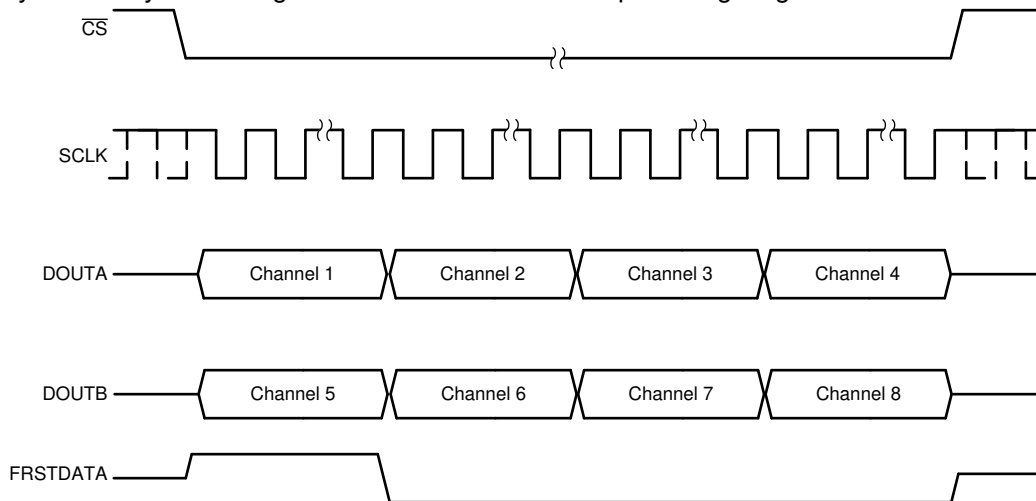

图 7-19. Data Read Back in the Serial Interface Using Both DOUTA and DOUTB Timing Diagram
- In order to minimize the time for the data read operation in serial mode, both DOUTA and DOUTB can be used to read data out of the device. In this case, the conversion results from the first set of channels (channels 1-4) appear on DOUTA and the conversion results from the second set of channels (channels 5-8) appear first on DOUTB. To read the data for all channels, provide a total of $16 \times 4 = 64$ SCLK cycles. This entire data frame can be created within a single \overline{CS} pulse or each group of 16 SCLK cycles can be individually framed by the \overline{CS} signal. 图 7-19 shows an example timing diagram.